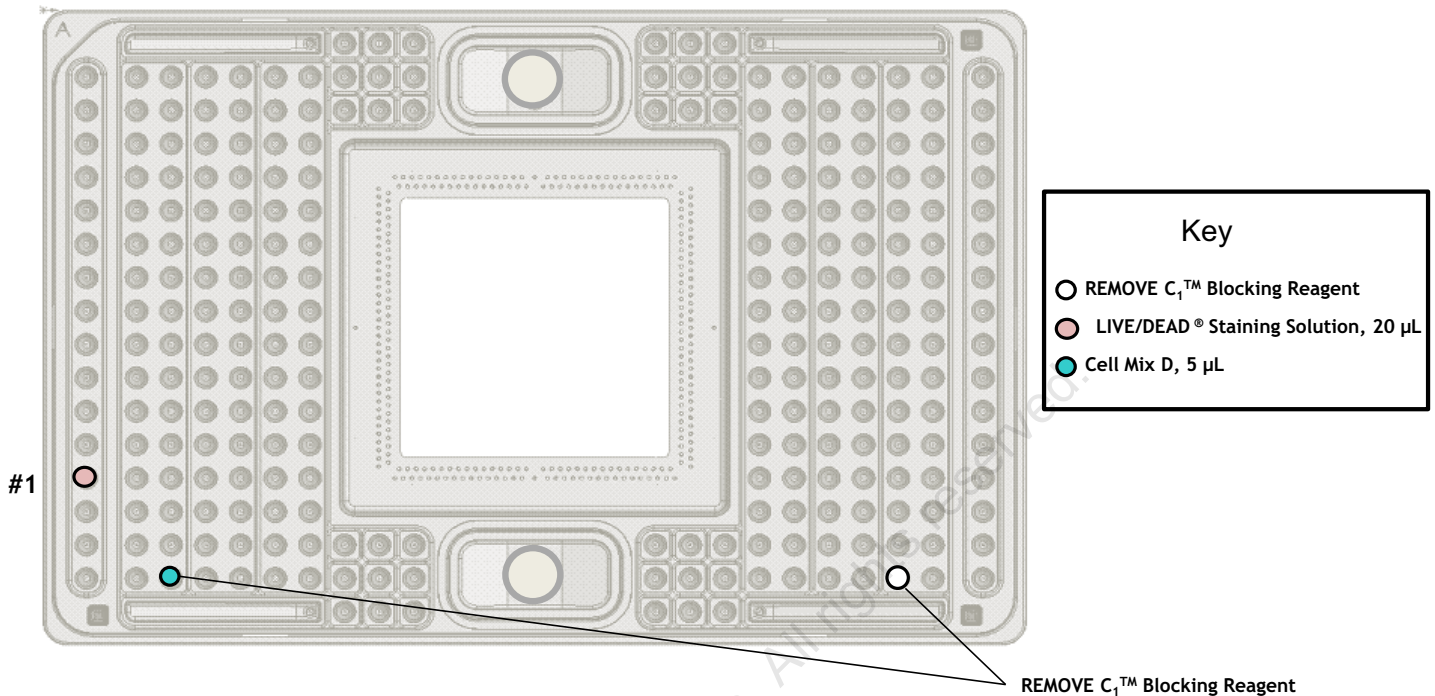

Figure 7 C₁[™] Chip loading pipetting map
- 1 Remove blocking solutions from cell inlet and outlet marked with teal and white dots in Figure 7.